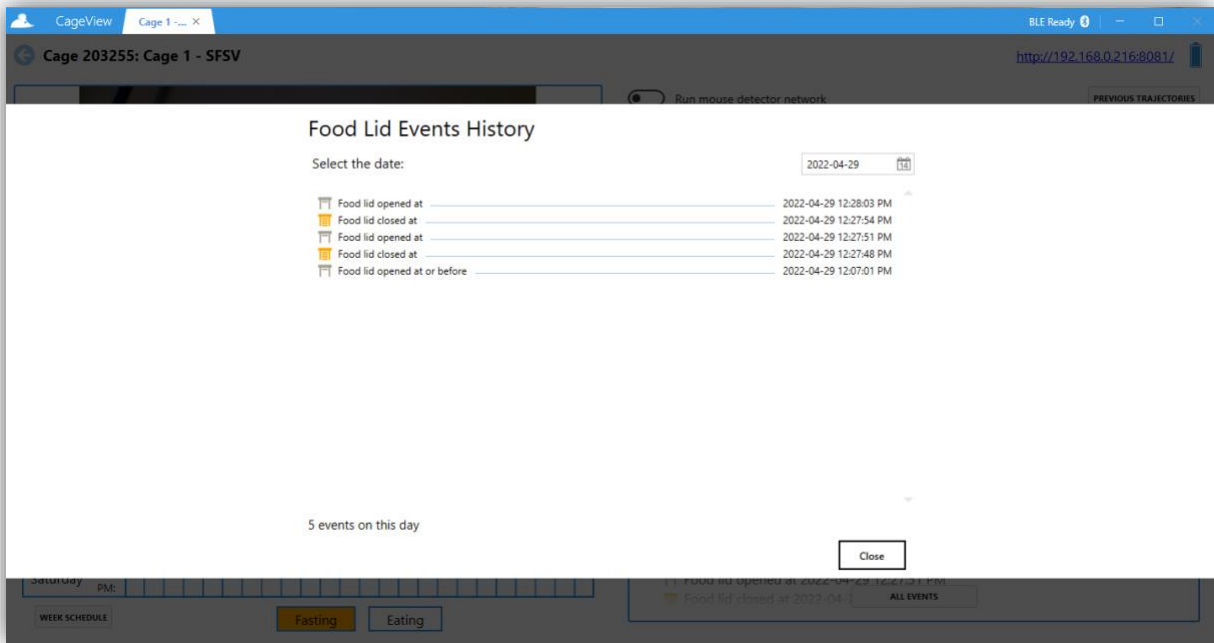

Figure 23. Food lid events history
5.2.10. The cage's food lid events are logged by the App for reference. A summarized list of these events and the current state of the cage's food lid can be seen. Also, the user can click the "**All Events**" button to see the complete list of food lid events. The dialog for the food lid events history is shown in **Figure 23**.